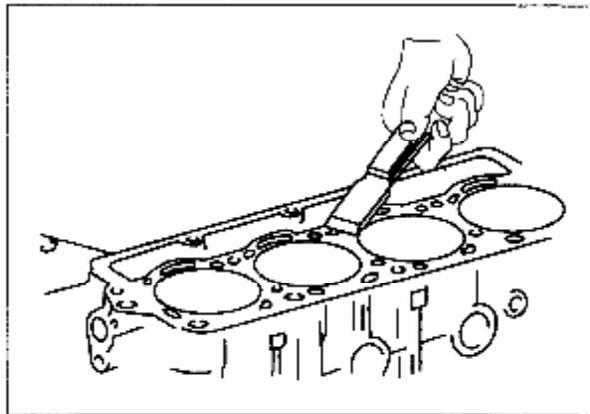

Figure 3-5 Clearing of Cylinder Head / Block
**3.1.5** After a cylinder head has been dismantled, clear gasket leftovers embedded on surfaces of cylinder head / block with a cutter. Be careful not to scratch contact surface and prevent entry of gasket leftover into tappet hole, water jacket hole and bolt hole (see Figure 3-5).